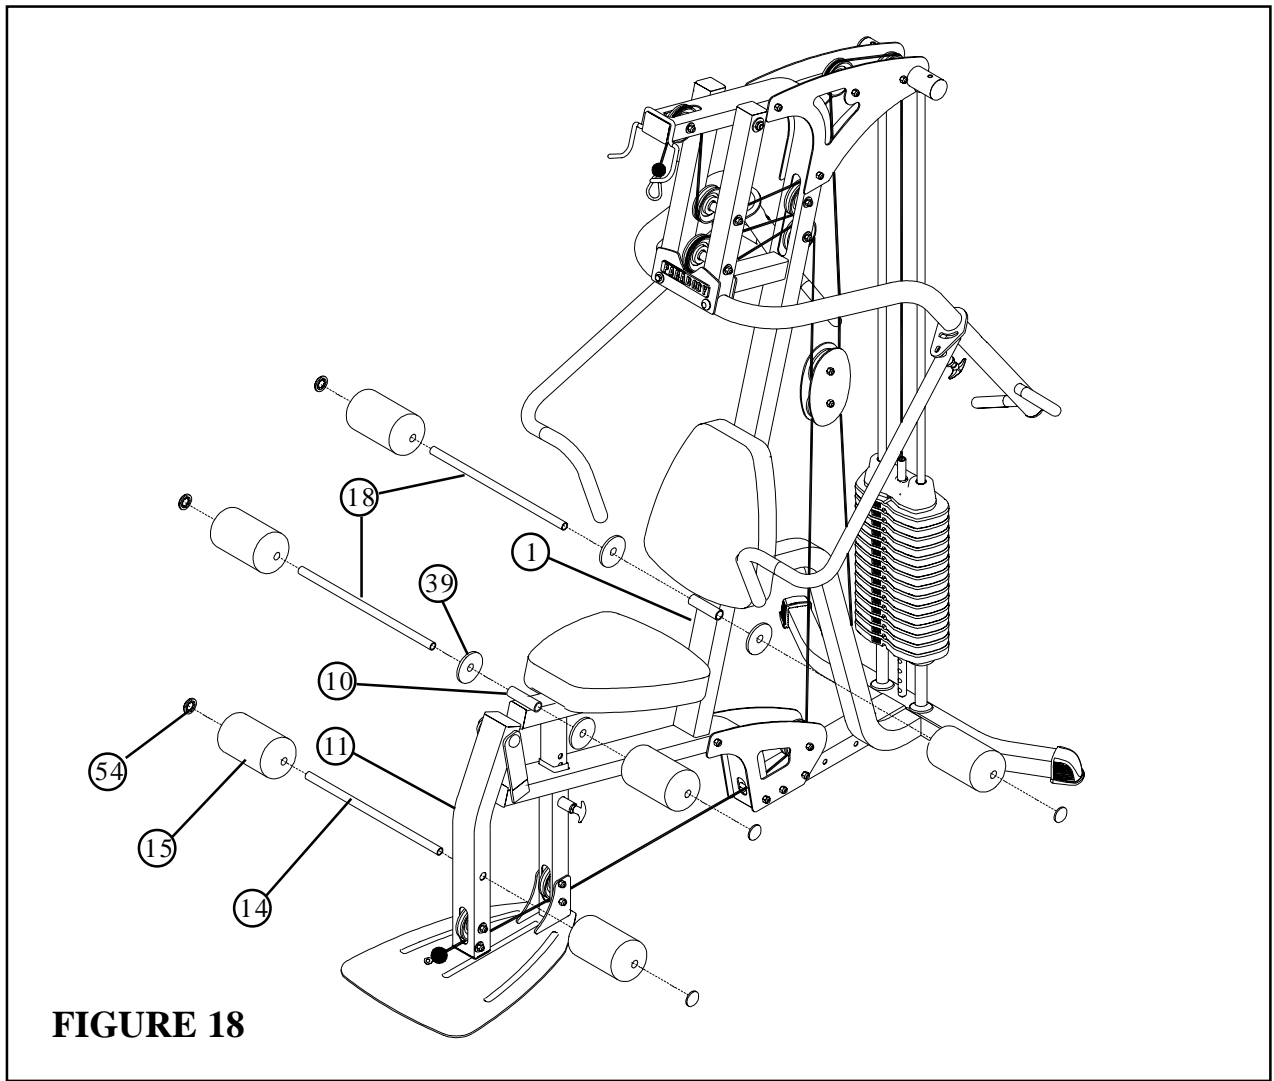

**FIGURE 17**
- Assemble one 3-1/2” PULLEY (24) between BASE PLATES (3) using one 3/8 X 3-3/4” BOLT (30), two 3/8 X 1” SPACERS (43), one 3/8” LOCK NUT (34) and tighten securely.
- Loosely assemble one 3-1/2” PULLEY (24) between the PULLEY PLATES (12) using one 3/8 X 1-3/4” BOLT (27), and one 3/8” LOCK NUT (34).
- Secure end of LOW CABLE (21) using one 3/8 x 3-3/4” BOLT (30), one 3/8” FLAT WASHER (36) and one 3/8” LOCK NUT (34) as shown in FIGURE 17
- Tighten both 3-1/2” PULLEYS (24) located on PULLEY PLATES (12)